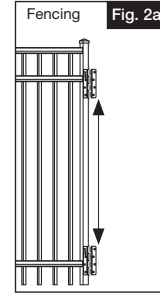

Fig. 2a
- a.) i.) For gate installation on a fence: place hinges at rail locations on gate, providing the maximum amount of space between each hinge (Fig. 2a).